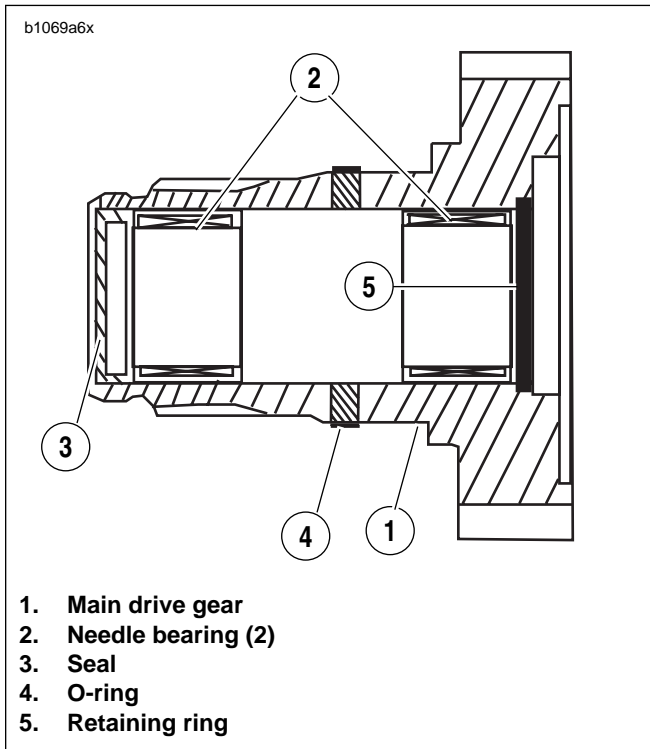
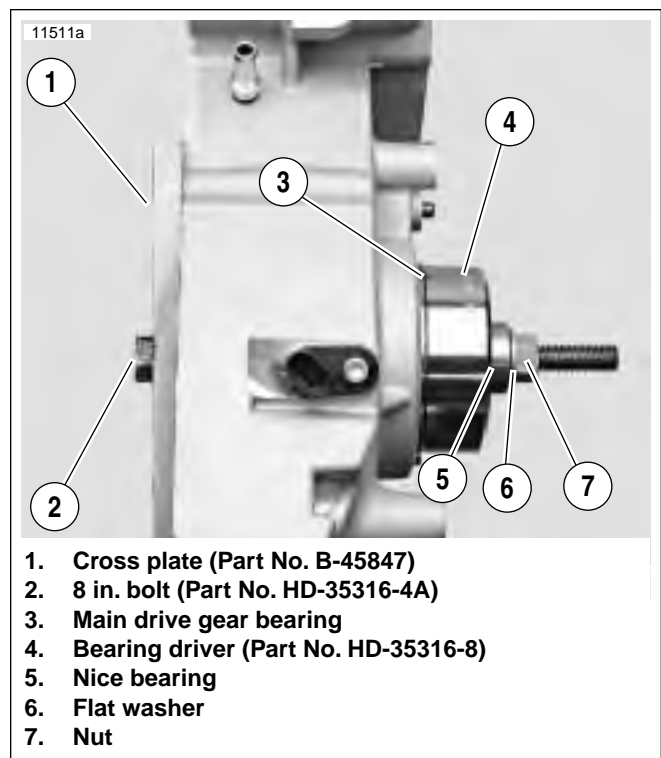

Figure 6-67. Main Drive Gear Assembly
Figure 6-75. Installing Main Drive Gear Bearing
3. See Figure 6-67. From inside case tap out seal at end of mainshaft 5th gear. Discard seal.
1. See Figure 6-67. Remove and discard retaining ring (5).
2. Drive out needle bearings (2) from inside bore of main drive gear (1) using appropriate bearing and bushing puller. Discard bearings. Do not reuse bearings after removal.
2. See Figure 6-75. Insert 8 IN. BOLT (Part No. HD-35316-4A) (2) through cross plate (1) and main drive gear bearing bore.
3. At outside of case, place main drive gear ball bearing (3), BEARING DRIVER (Part No. HD-35316-8) (4), NICE BEARING (5), FLAT WASHER (6) and NUT (7) over end of bolt.
2. See Figure 6-67. Install o-ring (5) into groove in main drive gear. Lubricate o-ring with GENUINE HARLEY-DAVIDSON FORMULA+ TRANSMISSION AND PRIMARY CHAINCASE LUBRICANT (Part No. 99851-05).
See Figure 6-67. Make sure to install **new** o-ring (5) onto main drive gear before installing main drive gear into crankcase.
3. See Figure 6-75. Insert 8 IN. BOLT (Part No. HD-35316-4A) (1) through WASHER (Part No. HD-35316-7) (2) and main drive gear (3). From inside of case insert bolt with washer and main drive gear through inner race of main drive gear bearing.
4. At outside of case, place INSTALLER CUP (Part No. HD-35316-12) (4), NICE BEARING (5), FLAT WASHER (6) and NUT (7) over end of bolt. Tighten nut until main drive gear bottoms against main drive gear bearing.
6. See Figure 6-67. Tap in **new** oil seal (6) at threaded end of main drive gear to a depth of 0.060-0.030 in. (1.524-0.762 mm).